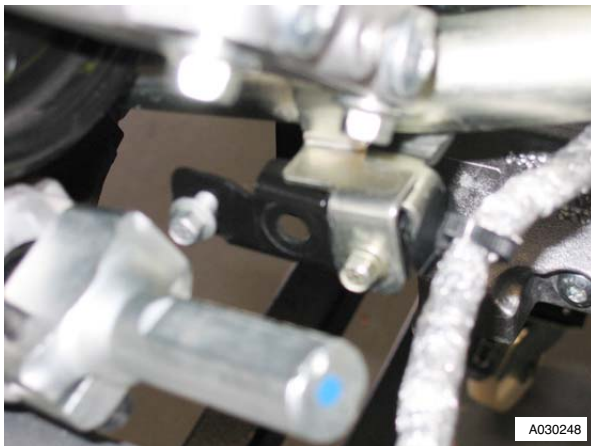

Figure 2
- Remove bolt, pipes to bracket (refer to Figure 2).